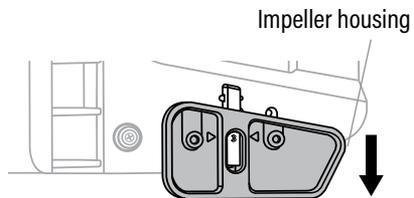

Fig. 7B
- To avoid wear and tear when on uneven surfaces, the operator needs to increase the distance from the impeller housing to the ground by moving the skid shoes downward to "2" or "3" position. (Fig. 7B)